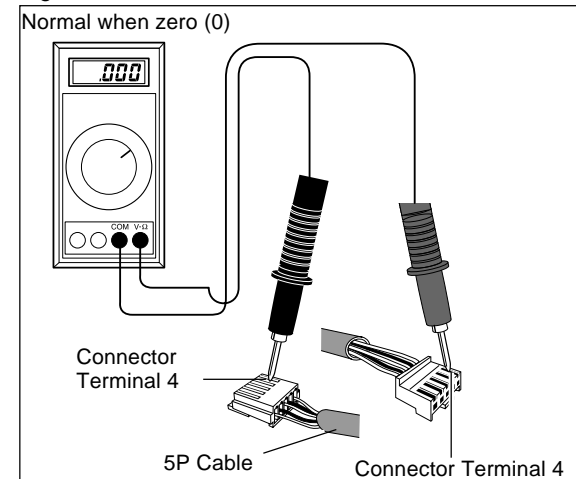

Fig. 3
5. Using a tester, check for any short-circuiting across Terminal 1s and Terminal 4s at both ends of the 5P cable which connects the power supply board and the control unit. (Fig. 3)